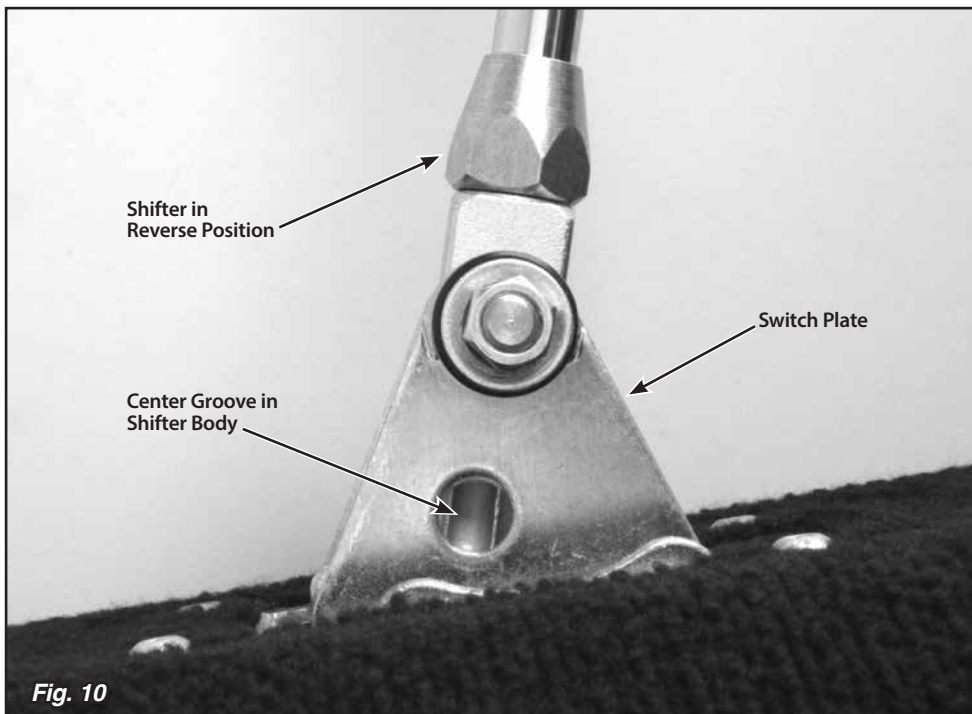
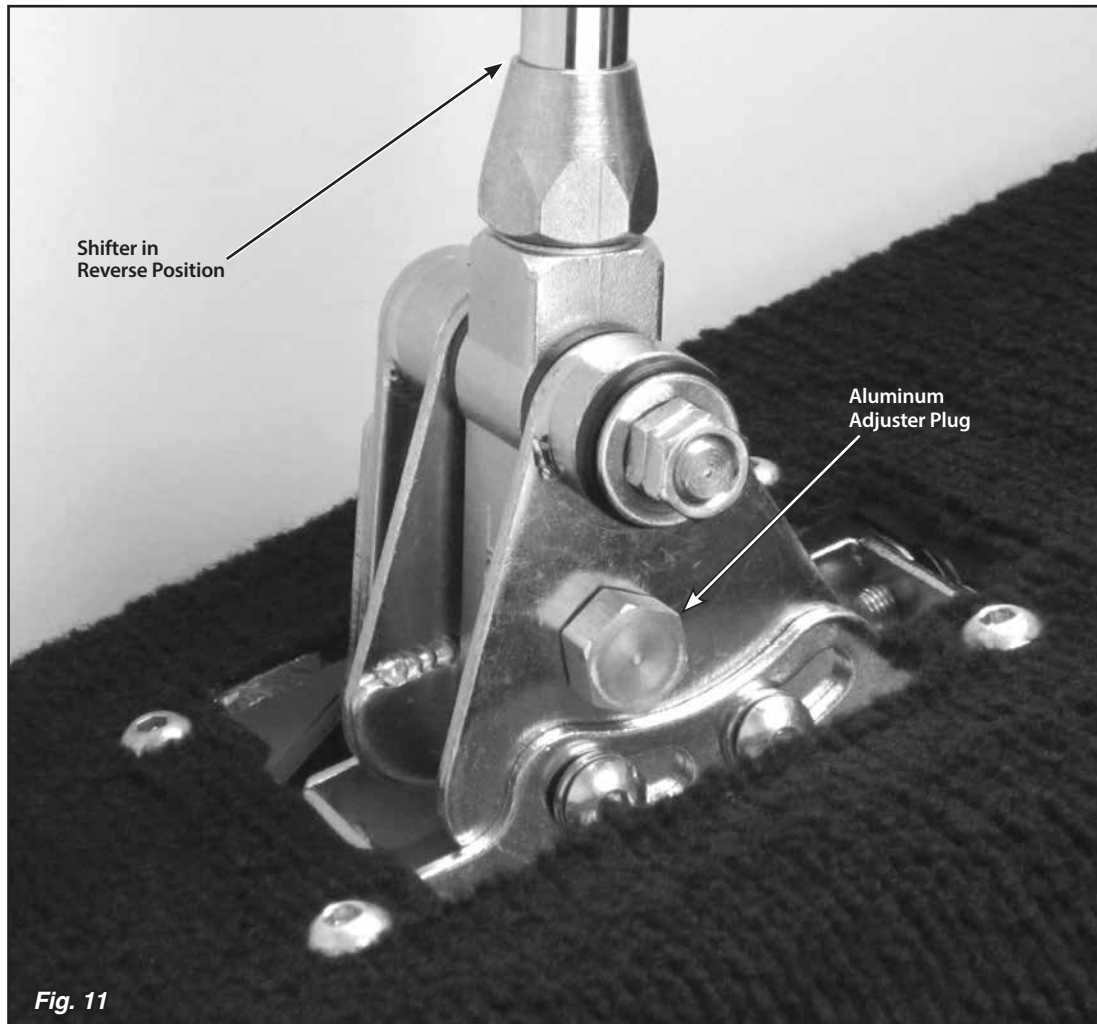

Fig. 10
Fig. 11
Step 16: Put the Shifter into the Reverse position. Reposition the switch plate so that the hole in the switch plate lines up with the center groove in the shifter body. **Fig. 10** Screw the provided aluminum adjuster plug into the neutral safety switch opening. Wiggling the switch plate slightly forward and back while you are screwing in the aluminum adjuster plug will help get the shifter body centered on the adjuster plug. **Fig. 11**
- **If there are (2) connections for a neutral safety switch**, run a #12 (or heavier) stranded wire from these terminals in your fuse panel to the (2) terminals on the neutral safety switch. That completes the neutral safety switch wiring.